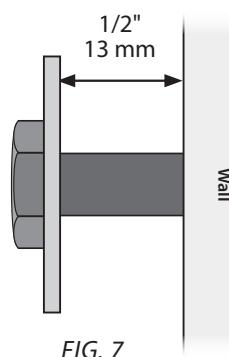

FIG. 7
- 7** Place washers onto each fastener and thread the fasteners into all four holes, leaving at least 1/2" outside of the hole to fit the Wall Bracket (F) and Rear Support Brace (G13) [FIG. 7].